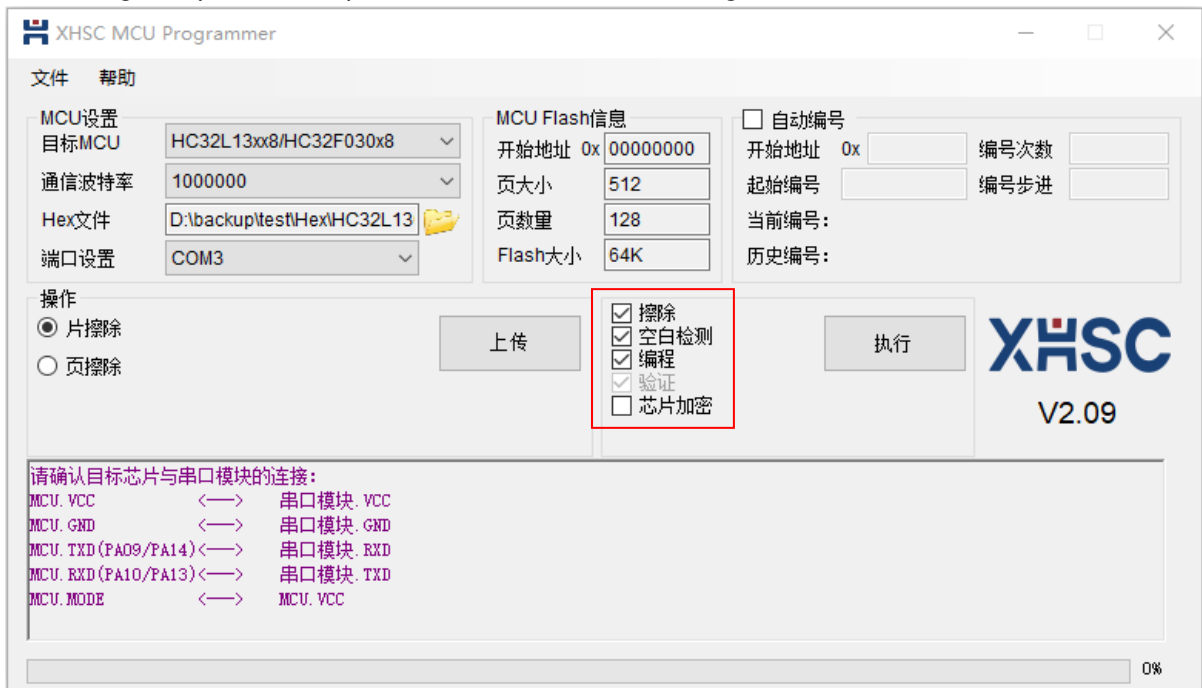

Figure 2-3 Select Operation
3. 3. Select the desired operation. For example, select the "Erase", "Blank Detection", "Program (Verification)" checkboxes. As shown in Figure 2-3.